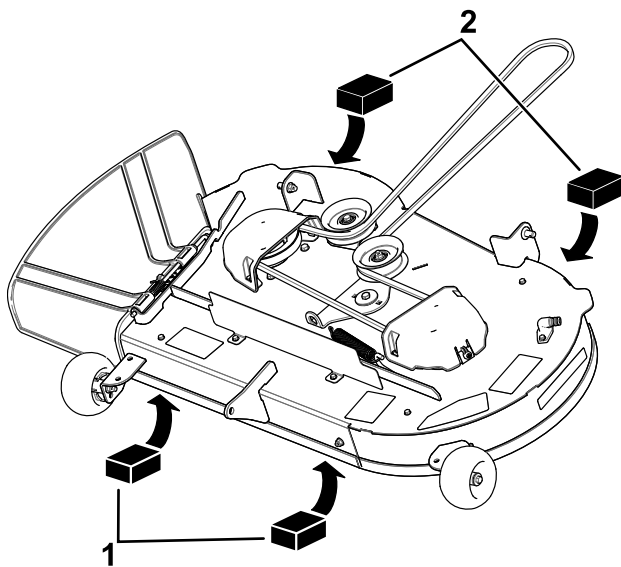

**Figure 68**
4. Place 2 blocks, each having a thickness of 6.6 cm (2-5/8 inches), under each side of the front edge of the deck but not under the anti-scalp roller brackets (Figure 67 or Figure 68).
5. Place 2 blocks, each having a thickness of 7.3 cm (2-7/8 inches), under the rear edge of the cutting deck skirt, 1 on each side of the cutting deck (Figure 67 or Figure 68).